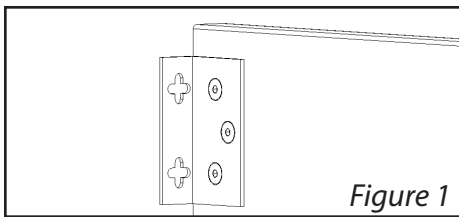

Figure 1
- Slide rail bracket (**Figure 1**) over bolts (**Figure 2**), then tighten bolts with 1/2" wrench.